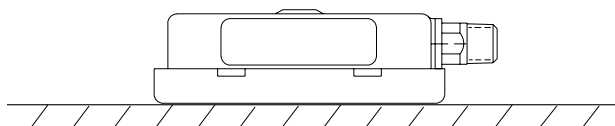

Figure 2
6. Place the gauge on it's face on a sturdy, flat surface for one hour. See Figure 2. Again, inspect the gauge carefully for any leakage from the case seals, fill plug, gauge screws, window, or socket area. **Note: If any leakage is noticed, contact Power Team Technical Services Department for disposition.**